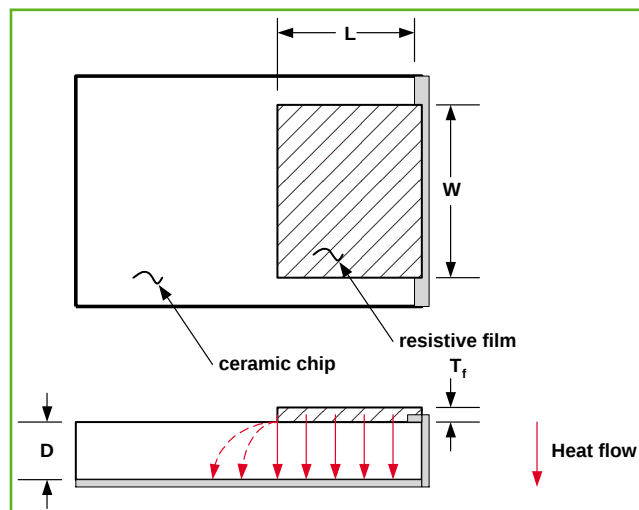

Figure 8. Chip termination showing heat flux
Assuming, from the aging tests, that the designer now knows the maximum film temperature allowable at full applied power, it must now be determined how to insure it is not exceeded – and what limitations it imposes on electrical performance. **Figure 8** shows the heat flux in a chip termination. We begin
with three simplifications to establish an elementary thermal model: (1) The heat is generated uniformly everywhere in the film; (2) the heat flow is one-dimensional – no spreading – from the film to the bottom of the chip, which is assumed at ambient (thermal ground); and (3) there is no convective or radiative heat flow. Concerning (1), we know that the currents in the film tend to be edge concentrated – much more so the lower the resistivity – and so there will be more heat generated at the edges than at the center. Nevertheless, we expect the approximation to be quite good for film geometries where the length and width are substantially greater than the substrate thickness and for the range of film resistivities typically encountered in RF applications. Additionally, we are not considering tapers, wherein the width of the film and hence the power dissipated at any cross-section may vary along its length. Concerning (2), it is understood that there is indeed thermal spreading, not only from the front face of the film – heat flow lines shown dotted in **Figure 8** – but from the lateral edges as well. Thus, the second and third assumptions are thermally conservative – there will be additional heat paths beyond those accounted for – while the first will need further investigation since edge-located hot spots could develop at RF that would not be revealed in DC tests.